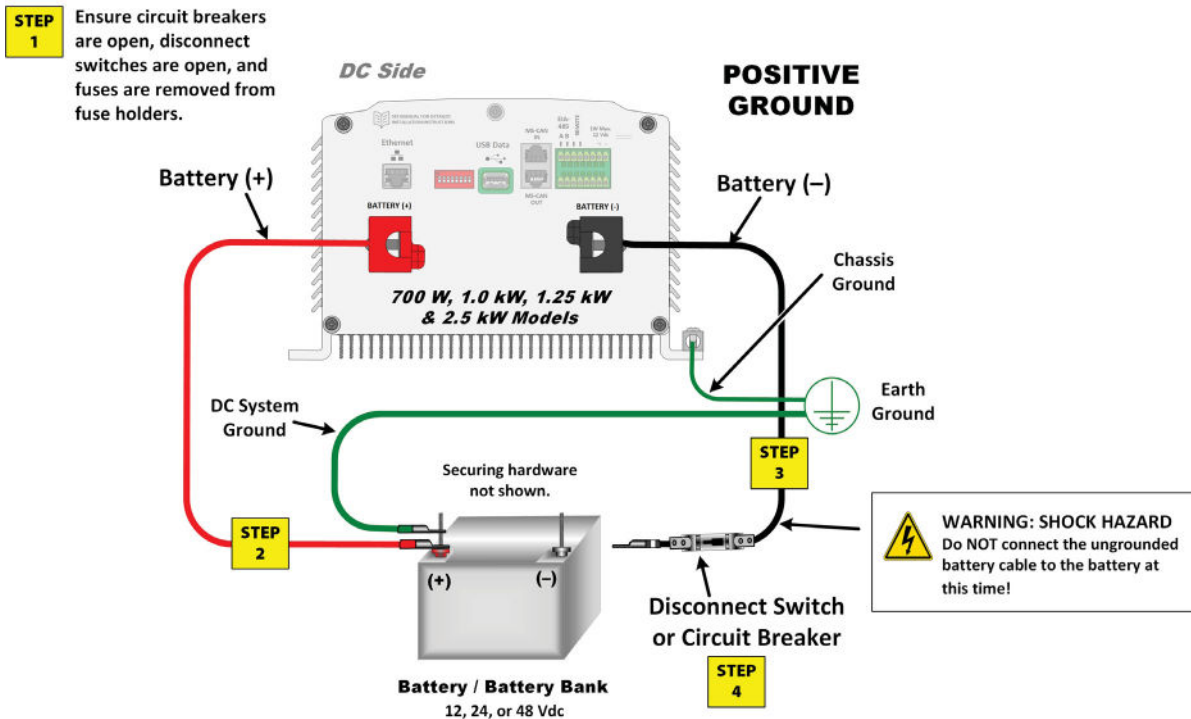

Figure 24: DC Connections on 700 W to 2,500 W Models with Positive Grounding
- **For 700 W, 1,000 W, 1,250 W & 2,500 W Models:** Figure 24 on page 28